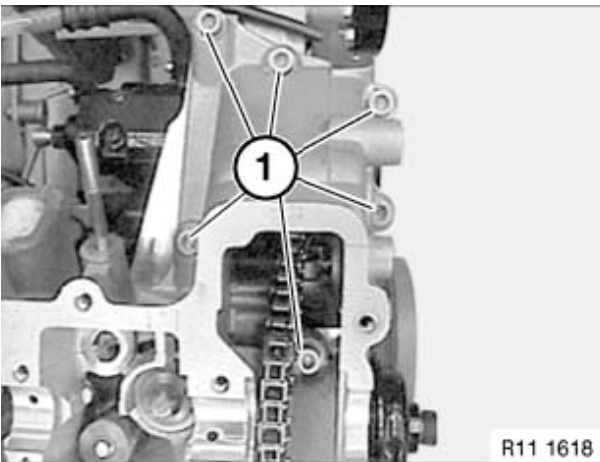

Figure 5-39
7. Install the timing case cover screws (Figure 5-39, (1)) and tighten.